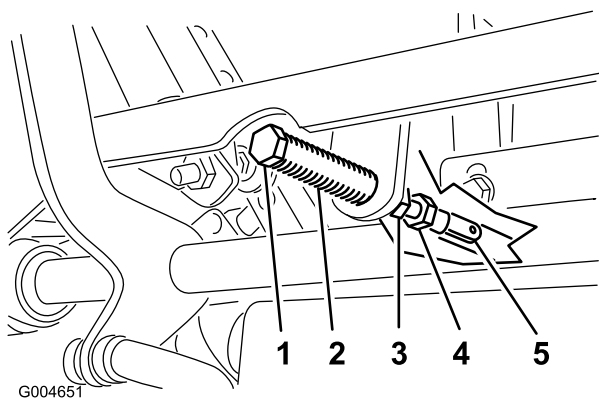

Figure 50
5. Pull the lever back until the clevis pin (on an arm above the pivot shaft) contacts the end of the slot (just beginning to put pressure on the spring) (Figure 50).
7. If adjustment is needed, loosen the nut and jam nut against the yoke (Figure 50).
8. Applying slight rearward pressure on the motion control lever, turn the head of the adjustment bolt in the appropriate direction until the control lever is centered in the neutral lock position (Figure 50).
9. Tighten the nut and jam nut (Figure 50).
9. Tighten the jam nuts at the ball joints (Figure 50).